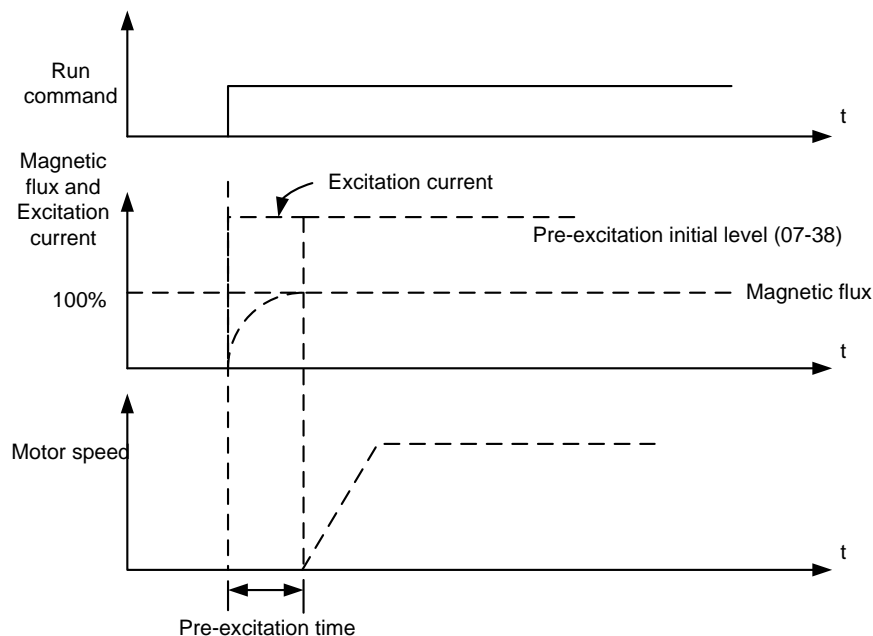

Figure 4.3.62 Pre-excitation operation
1. The time for the flux to reach 100% is a function of the motor's electrical time constant, see figure 4.3.62.
When the flux reaches 100%, pre-excitation current reverts back to 100% and pre-excitation is completed, refer to figure 4.3.62 for more information.